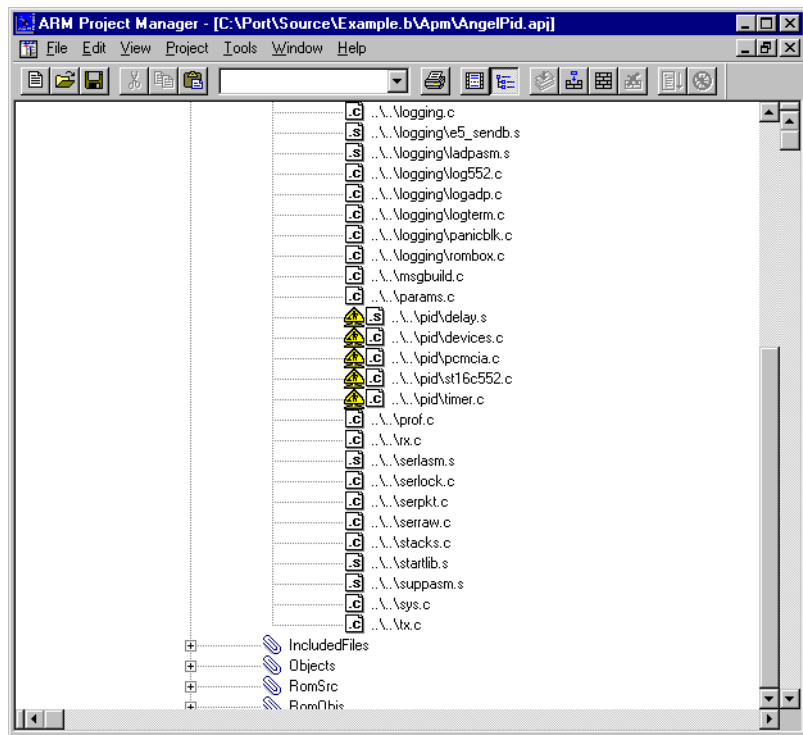

Figure 13-11 Replacing target-specific source files
13. Remove and re-add all target-specific source files to the project. These are the files that are located in the renamed `pid` directory, such as `devices.c` and `make10.c` (see Figure 13-11 on page 13-54). In general you will have to replace these files with your own code when porting Angel.